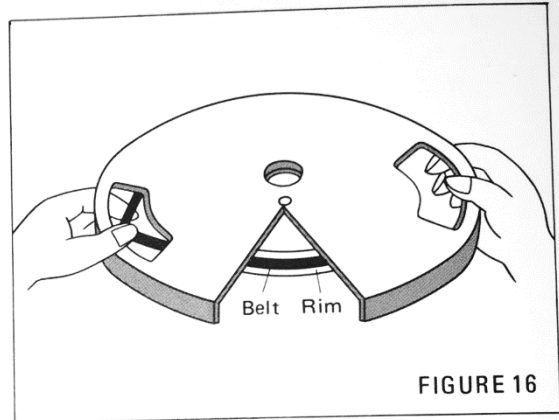

FIGURE 16
(2) Hold the platter horizontally, insert it into the spindle carefully and engage the belt over the motor pulley making sure that the belt is not twisted. (Figure 16)